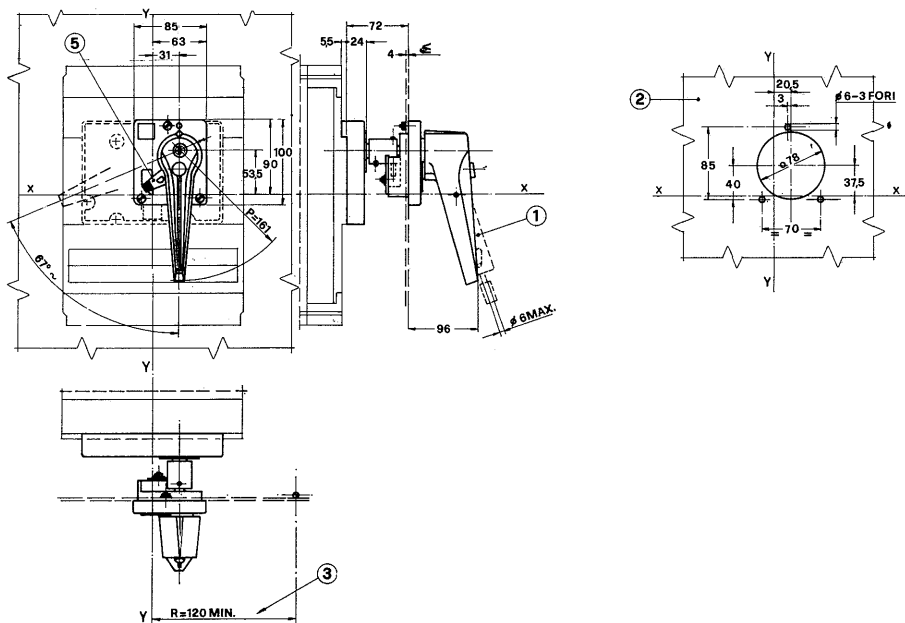

Fig. 29
- a) remove the breaker cover (§ 5.2.) and replace the standard lever with the special one (1) supplied with the mechanism
- c) secure the transmitting group (2) on the breaker with screws (3) and washers (4), taking care that the metal jut of handle (1) enters the slot (5)
- d) install the breaker in the panel or enclosure taking care that clearance between the door and the breaker is that indicated on fig. 29
- e) drill the door to template on fig. 29
- f) lead through the door aperture the handle group (7) and secure with bolts (8) (9) and washers (10)
- g) close the door and make sure that the rod (11) enters the handle group (7)
N.B. If padlocks are not fitted, the door can be unlocked by turning lever (12) anticlockwise
- with the breaker open, turn lever (12) anticlockwise and fit one padlock at least; the door is locked.